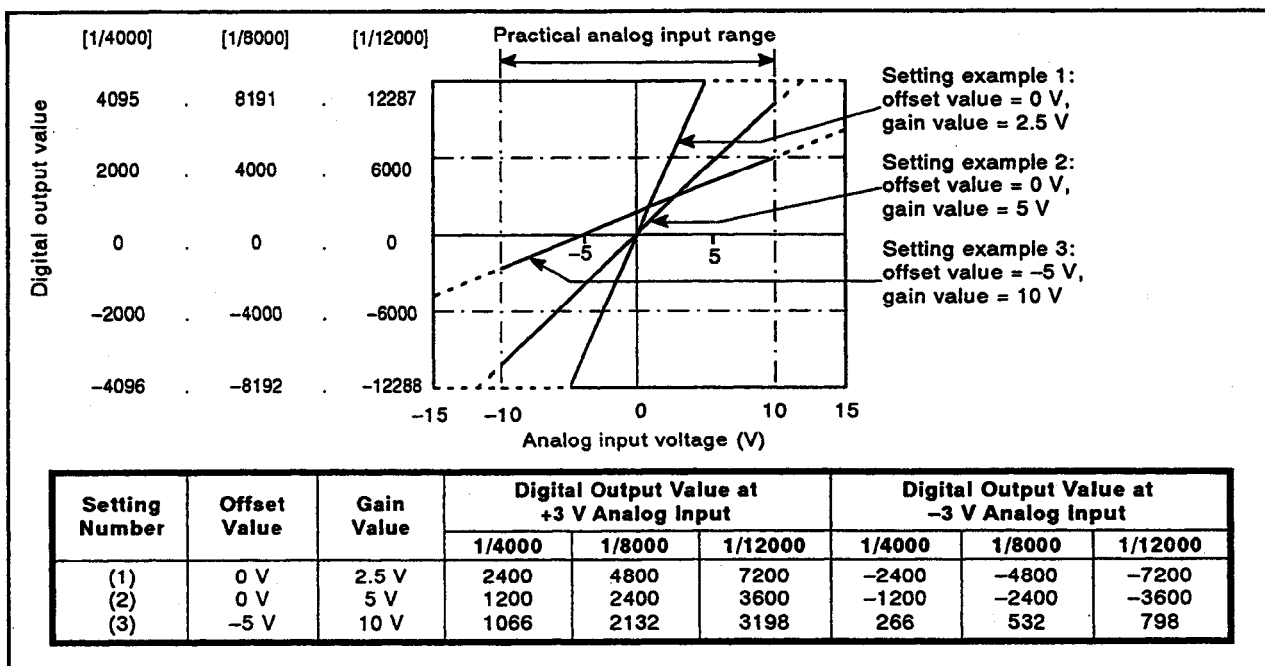

Fig 3.2 Voltage Input Characteristics
- (1) Do not input voltage ± 15 V or more. Otherwise, elements may be broken.
- (2) When the input voltage is from -10 to 10 V, the maximum resolution and overall accuracy will be within the specifications range. However, if the input voltage is outside this range, the accuracy will sometimes not match with the specifications. (Do not use a value within the range corresponding to "-----" in the figure 3.2.)
- (3) When an analog is input, that causes a digital output value beyond the maximum (4095, 8191, or 12287) or minimum (-4096 , -8192 , -12288) of the digital resolution, the digital output value is fixed to the maximum (4095, 8191, or 12287) or minimum (-4096 , -8192 , or -12288) of the digital resolution.
- (4) Follow the conditions below to set the offset/gain. If the settings do not match these conditions, correct characteristics cannot be guaranteed. This disables the A-D conversion completed flag (Buffer memory address: 19) from turning ON.